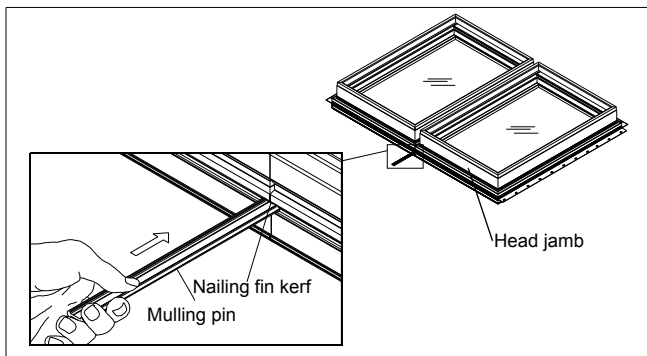

Figure 2
2. Slide aluminum mulling pin into nailing fin/drip cap kerf. The mull pin ends must be recessed 1/4" (6) to allow sealant application later. See figure 2.